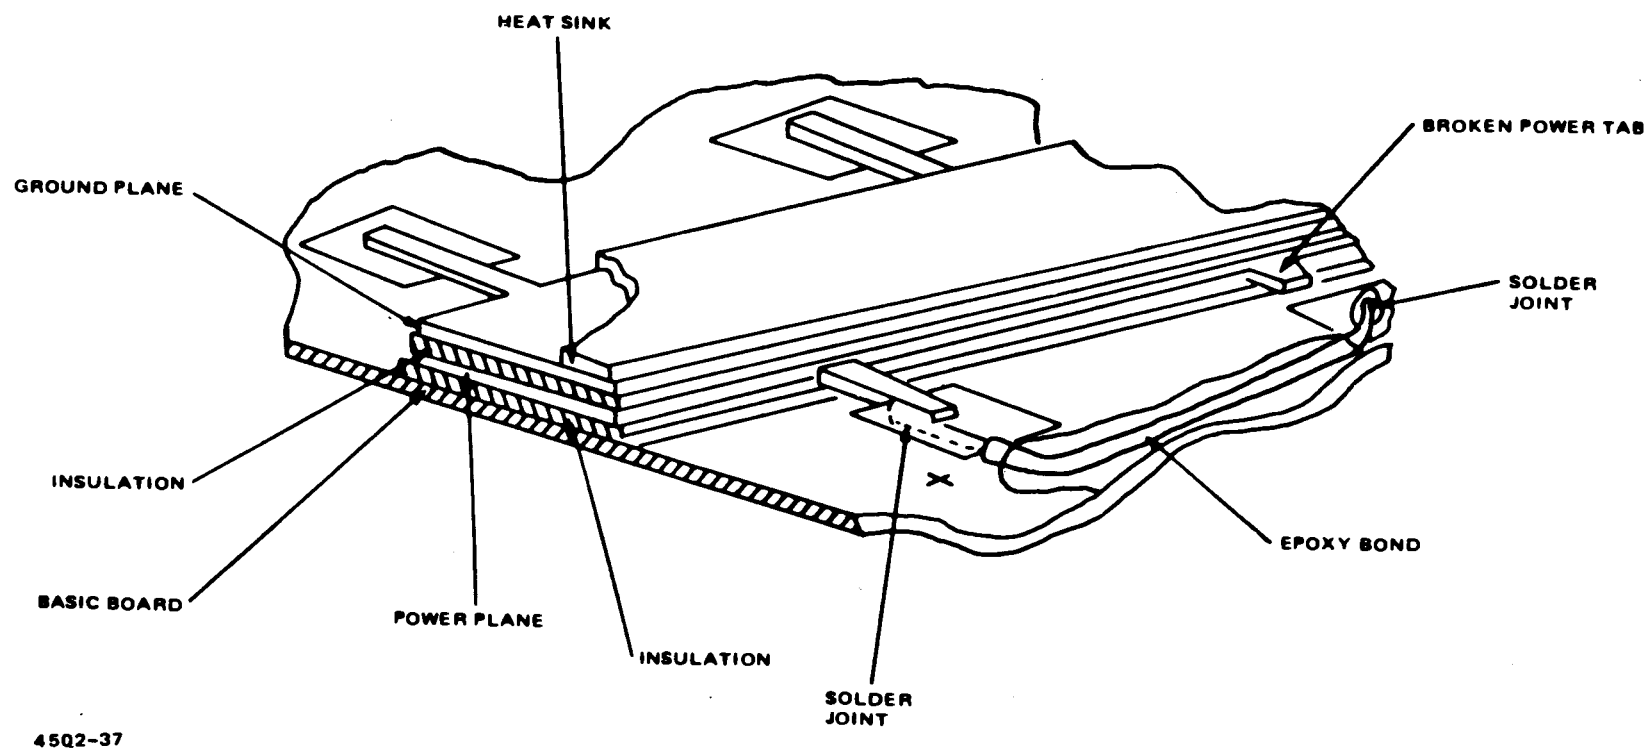

Figure 3-9. Repair of Broken Thermal Mounting Plate Power or Ground Tabs
2. Form the 26-gage insulated copper jumper wire to the designated points and cut to the required length (fig 3-9).